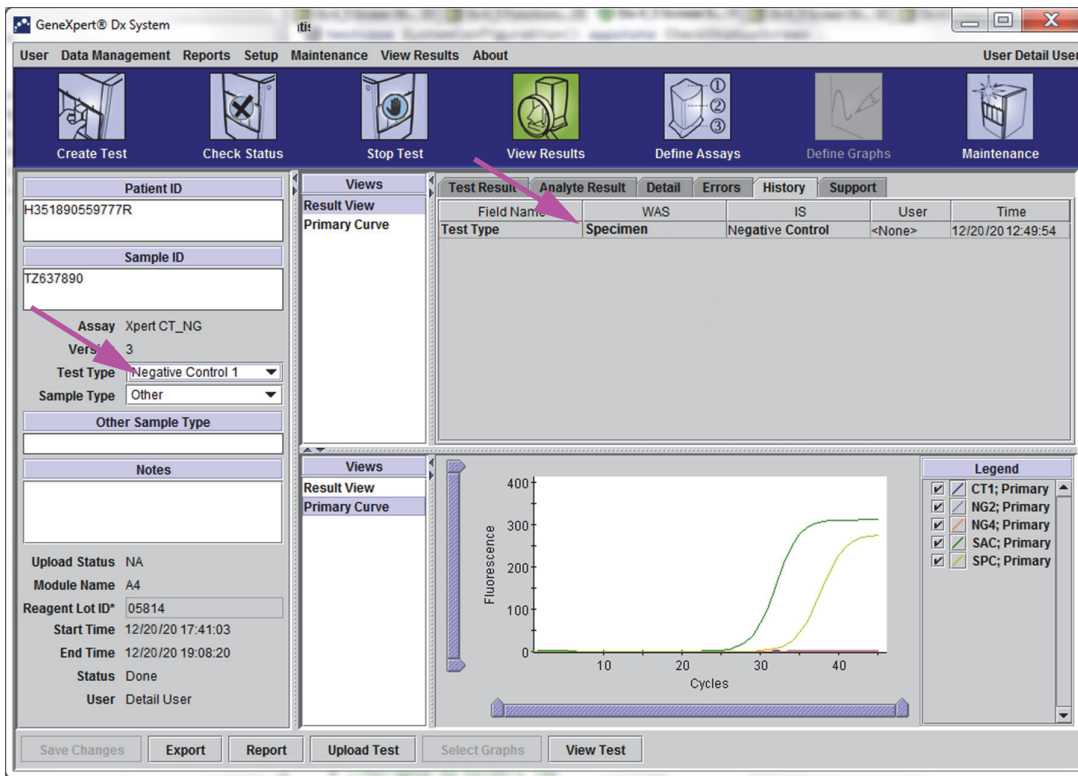

Figure 5-43. History Tab showing Change from Specimen (Sample) to Negative Control Test Type
5. Click **Yes** to save the changes and proceed. The software tracks the change history (see Figure 5-43).